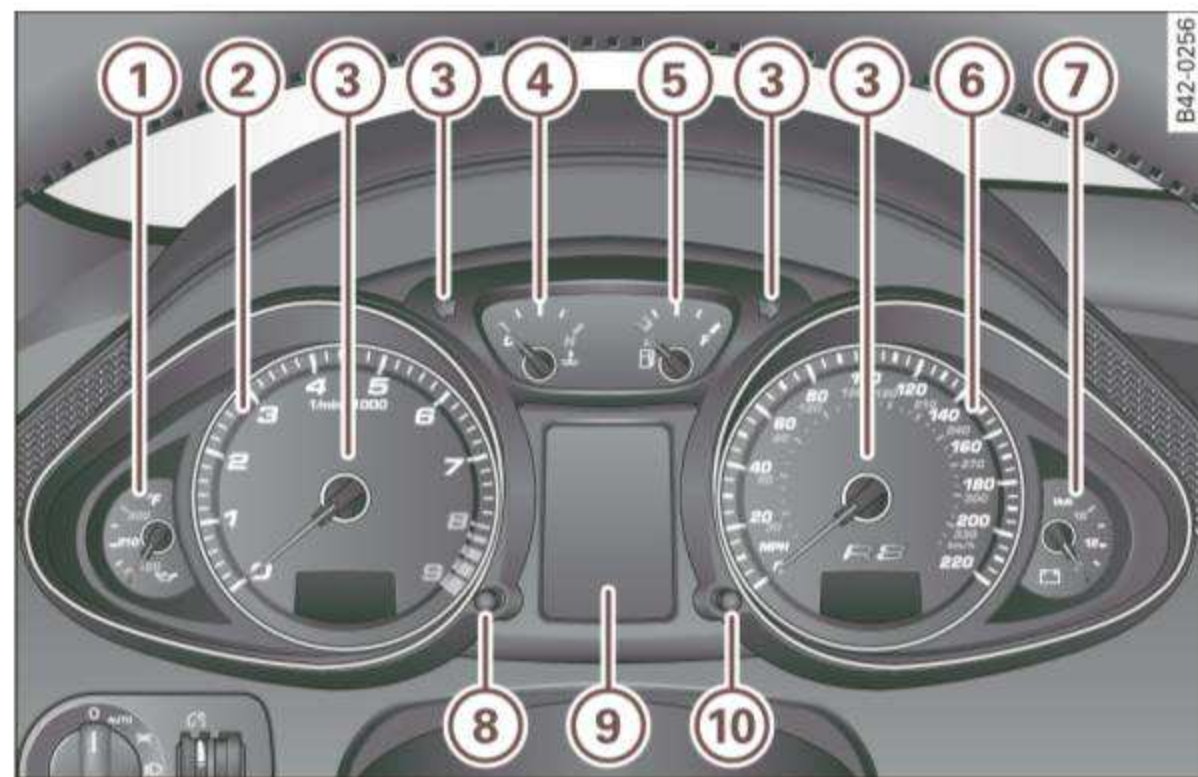

Fig. 2 Overview of the instrument cluster
The engine oil temperature display ⇒ fig. 2 only operates with the ignition on. To prevent engine damage, please observe the following important points concerning the temperature ranges.
The needle in the tachometer ⇒ page 8, fig. 2 ② may only be in the red area of the gauge for a short time or the engine could be damaged. The location where the red zone begins varies depending on the engine. ■
With the ignition off, pushing or pulling the Set/Check button ⇒ page 8, fig. 2 ⑧ can turn on the display field lighting for a few seconds. ■
The engine coolant gauge ⇒ page 8, fig. 2 ④ only works when the ignition is on. To prevent damage to your engine, please note the following important points. ▶
With the ignition off, pushing of the Set/Check button ⇒ page 8, fig. 2 ⑧ can turn on the display field lighting for a few seconds.